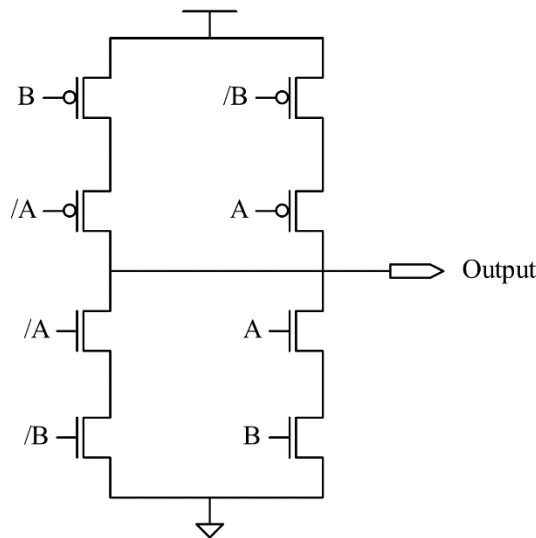

Figure 17. XOR2 gate
- b) Figure 17 is the schematic of XOR2 gate. This gate has 12 transistors. Figure 17 requires two inverters to generate /A and /B from input A and B.